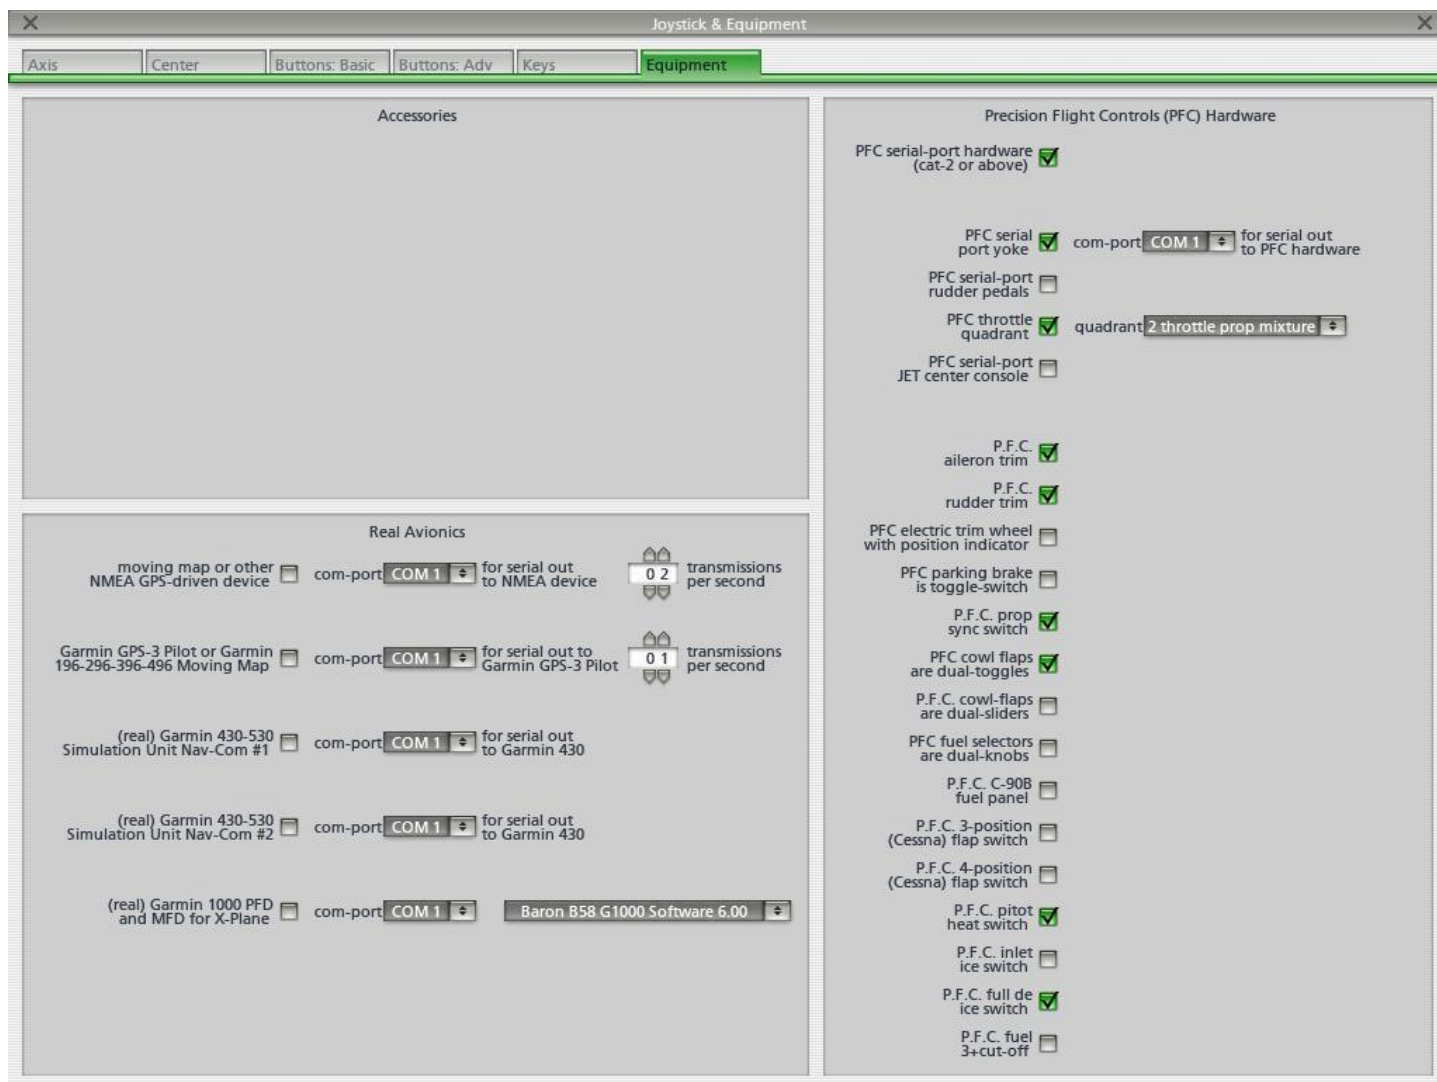

Figure 1.1
12. Enable the check boxes as shown in **Figure 1.1**